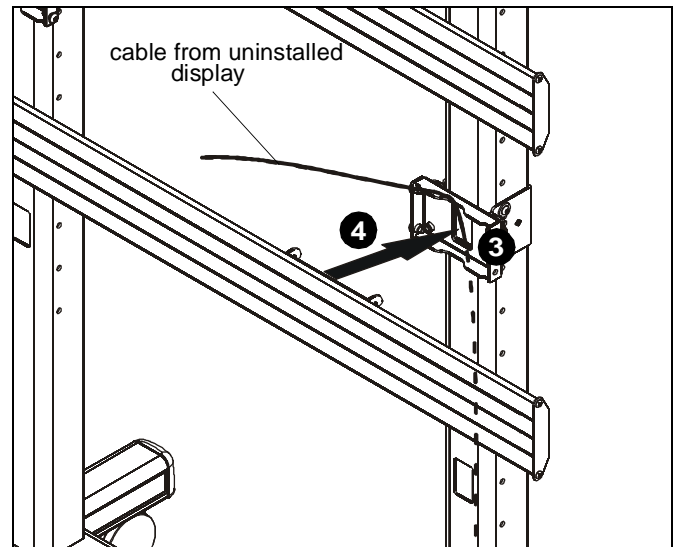

Figure 24
3. If rails needed to be installed on top of cable management holes, cables may be routed through quick connect bases (Q) prior to the rails being installed. (See Figure 24)
4. Install rails according to Rails Installation section making sure cable is routed through cable opening on quick connect base (Q). (See Figure 24)